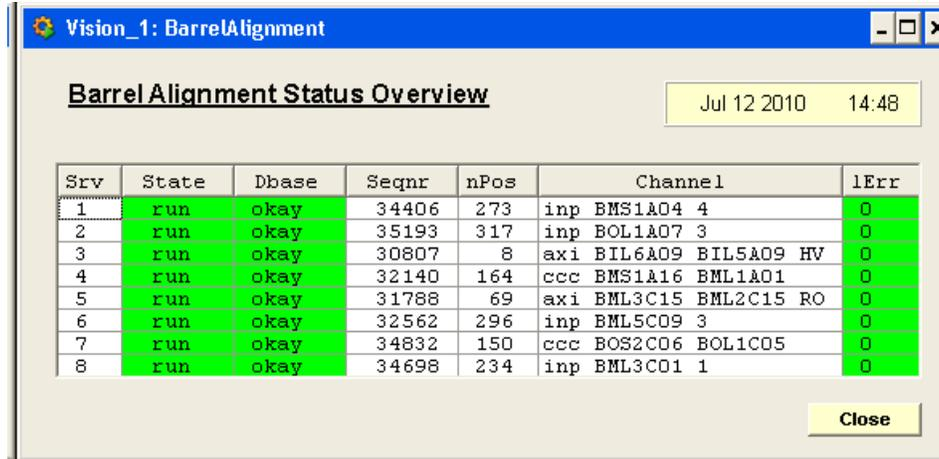
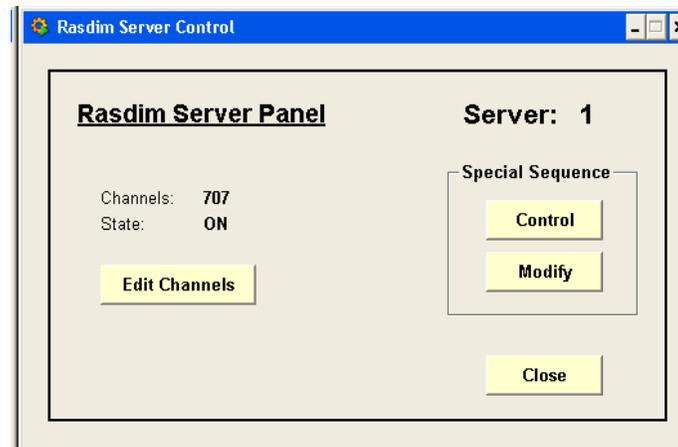
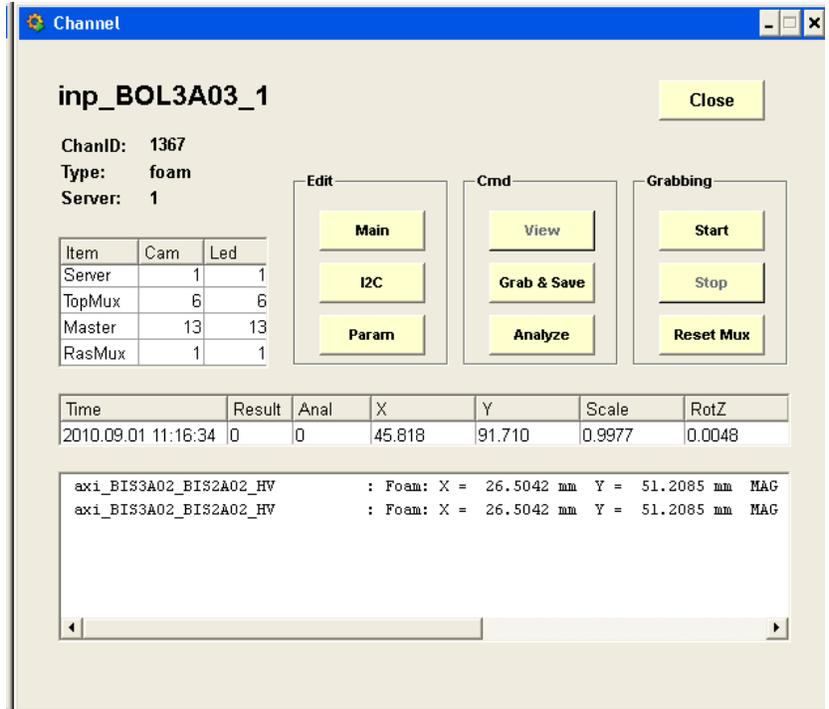

Figure 2.5: RDsvMain panel
Figure 2.6: Main Server panel
Figure 2.8: Channel panel
4. Select the user interface manager: **RDsvMain**. Start it by pressing the green push-button (the Start Manager button turns green when you select a manager). After a moment a panel will appear as shown in Figure 2.5. It is a summary and status overview of the eight servers.
- The main server panel, shown in Figure 2.6, will appear. As an example server #1 is used. The special sequence buttons (Control and Modify) should not be used, they are for experts only. The number of channels of server #1 is 707 and the state is ON (indicating the sequence is running). In order to specify a specific channel, press the Edit Channels button.
8. Double click on the channel to be checked. As a result a panel will appear as shown in Figure 2.8. **NB:** Be aware that from now on the sequence is stopped. The state as shown in Figure 2.5 and Figure 2.6 will go to OFF. It will result into **ALARMS** and **ERRORS** in the ATLAS Control Room (they will propagate to the central DCS desk). Make sure you have notified the shifter and shift leader. As soon as you exit/close/quit this panel, within seconds the sequence will be resumed. On the left upper side of the panel the main parameters of the channel are shown: its name, analysis type, the server and the addresses of the Camera and Led. The result of the last analysis is shown in the middle table. At the bottom a message window shows some information (if any) on the actions taken. The 'real' action/commands are grouped into three sets: *Edit*, *Cmd* and *Grabbing*.